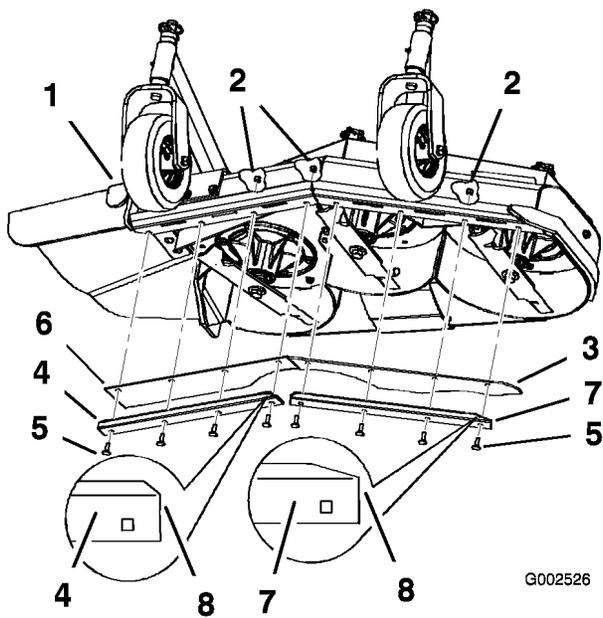

Figure 1
Note: Install bolts as shown in Figure 1.
Note: There are different ends on the left and right metal baffle stiffeners. See Figure 1 to identify the difference between the left and right metal stiffeners.
1. Install the left side rubber baffle and the left metal baffle stiffener with 4 bolts (5/16 x 1 inch) and 4 locknuts (5/16 inch) (Figure 1).
2. Install the right side rubber baffle and the right metal baffle stiffener with 4 bolts (5/16 x 1 inch) and 4 locknuts (5/16 inch) (Figure 1).